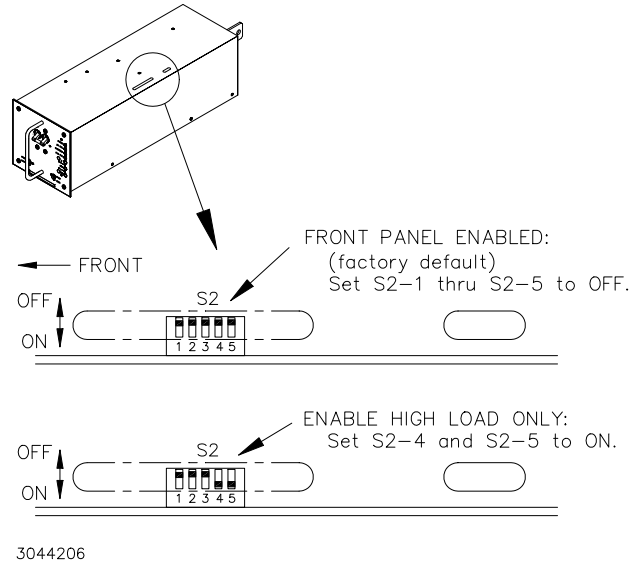

FIGURE 1. DIP SWITCH FACTORY DEFAULTS
DESCRIPTION HSL power load (Figure 1) is a fan-cooled resistive load designed for use with Kepco RA 60 or similar plug-in rack adapters as a hot replaceable module in a redundant power system. Bench top operation is also supported. The purpose of the HSL is to provide the minimum 10% per pair current requirement of HSP in cases where a system operates a pair of redundant HSP power supplies at values less than the recommended factory settings.
1. Verify that HSL DIP switch positions are set to the factory default (see Figure 1).
NOTE If the DIP switch positions are set as shown in Figure 1 for “Enable HIGH LOAD only,” the HIGH LOAD/LOW LOAD switch setting is ignored and HIGH LOAD is always in effect.